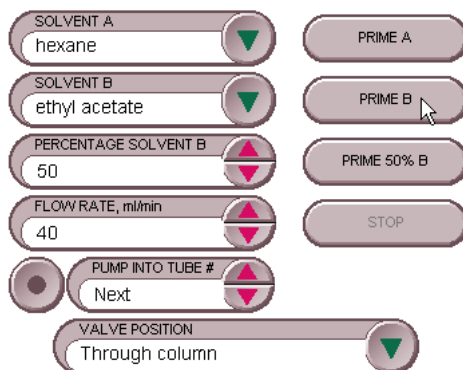

Figure 8-6 Manual Control Settings - Quick Cleaning
4. Set the Flow Rate to 40 mL/min (Figure 8-6).
3. Set the Flow Rate to 40 mL/min (Figure 8-6).